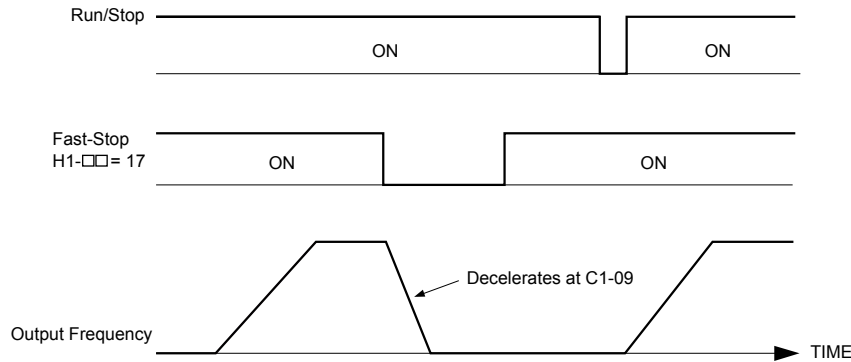

Figure 5.41 Fast Stop Sequence
*Figure 5.41* shows an operation example of Fast Stop.